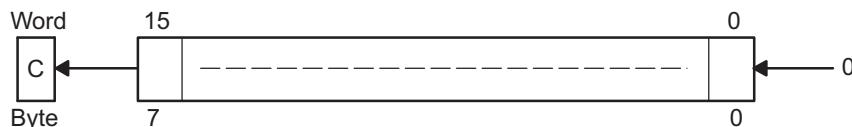

Figure 3-15. Destination Operand – Arithmetic Shift Left
Description	<p>The destination operand is shifted left one position as shown in Figure 3-15. The MSB is shifted into the carry bit (C) and the LSB is filled with 0. The RLA instruction acts as a signed multiplication by 2.</p> <p>An overflow occurs if dst $\geq 04000h$ and dst $< 0C000h$ before operation is performed: the result has changed sign.</p>